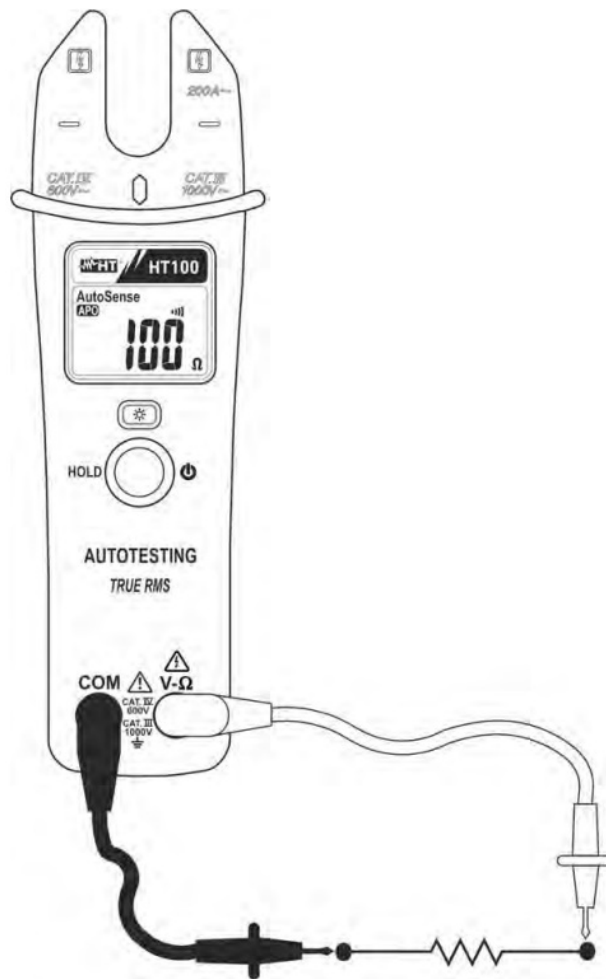

Fig. 5: Taking resistance measurement
2. Connect the two long ends of test leads to the desired circuit (see Fig. 5) then reading value of resistance will be displayed